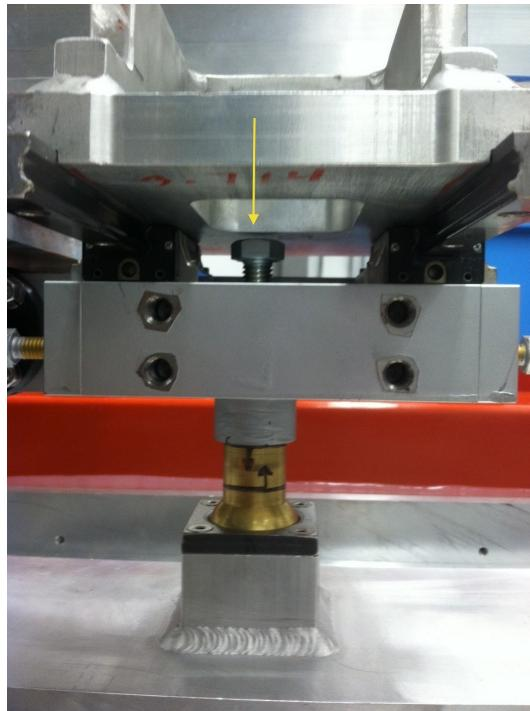

Figure 3
5. **Warning:** Make sure that the top vertical screw has clearance to move front-to-back. See Fig. 3, don't be in the situation that the screw is in the hole and not down far enough to travel out of the hole.